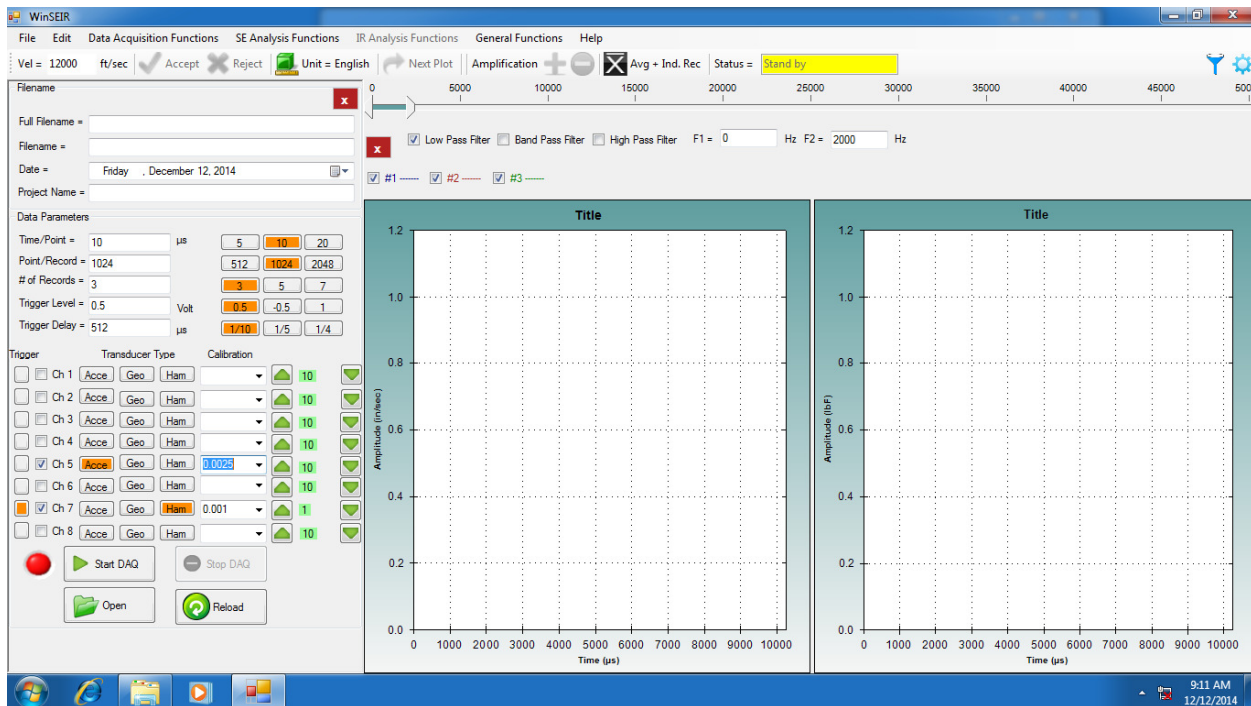

Figure 4.1 – First Screen WinSEIR Software
To run the WinSEIR software, simply execute “WinSEIR.exe” from the shortcut on the desktop and the software will launch, displaying a parameter panel on the left side of the screen and a filter panel on the top right portion of the screen above the waveform plot(s). (See Figure 4.1 below.) The status is highlighted in yellow at the upper right portion of the screen and is in “Stand by” mode.
Data parameters are created by the program when the program detects that the parameter default file is missing. However, these values can be edited in the Parameter Panel (located on the left side of the screen) as shown in Figure 4.1. There are 7 parameters that affect the SE/IR data acquisition:
- Channel Setup is the place to turn on and define the channels used in data acquisition. In Figure 4.1, the accelerometer is connected to Channel 5 and the hammer is connected to Channel 7. Please refer to the input module to identify the correct channel. Note that each unit may differ as the Freedom Data PC is customized to the needs of each client.
The transducer gain values can be increased or decreased manually using the green arrows located in the parameter panel (see Figure 4.1). The gain values should be set such that the %FS (Full Scale) shown above each plot during data acquisition is between 10-90%. Typical gain values are as follows: Instrumented Hammer ~ 1-2, Geophone ~ 5-50, Accelerometer ~ 2-20.